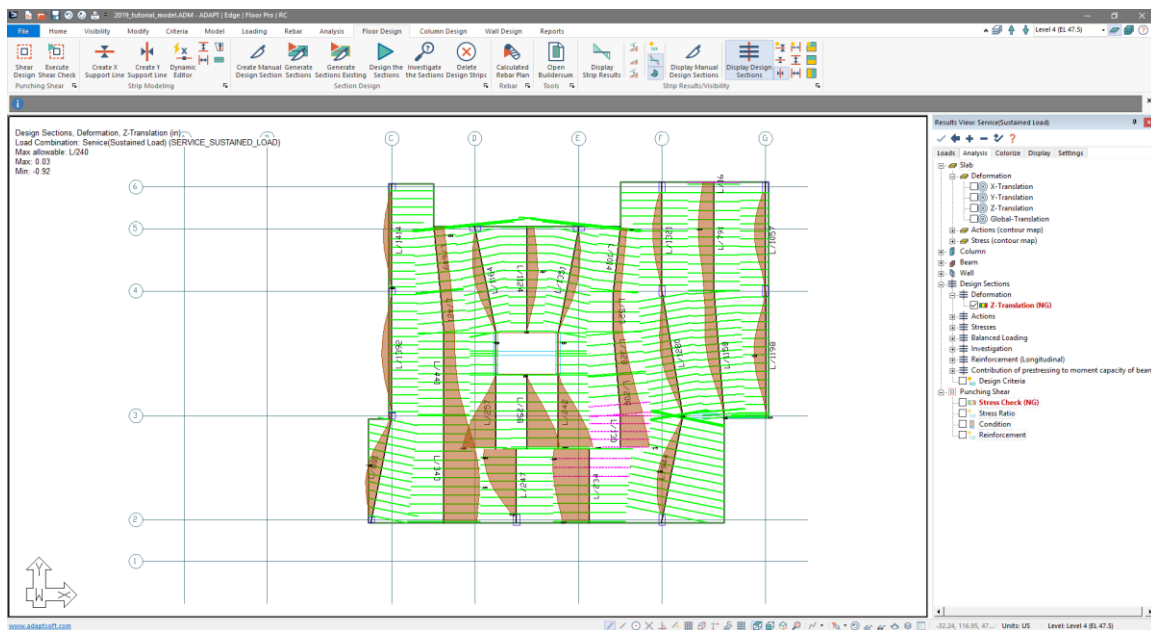

Figure 10-31
- In the *Analysis* tab of the *Results Browser*, navigate to *Design Sections* → *Deformation* → *Z-Translation* and check the box next to *Z-translation*. The user should now see the strip results for the Y-direction support line's deflection check as shown in **FIGURE 10-31**. Note that the deflection check fails in the same locations checked above.